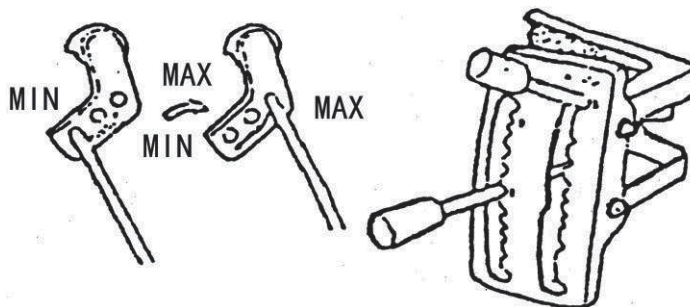

Fig.12
2) Dusting. Regulate the discharge rate by shifting the dust rod's position in the three holes of the rock-arm. See Fig12